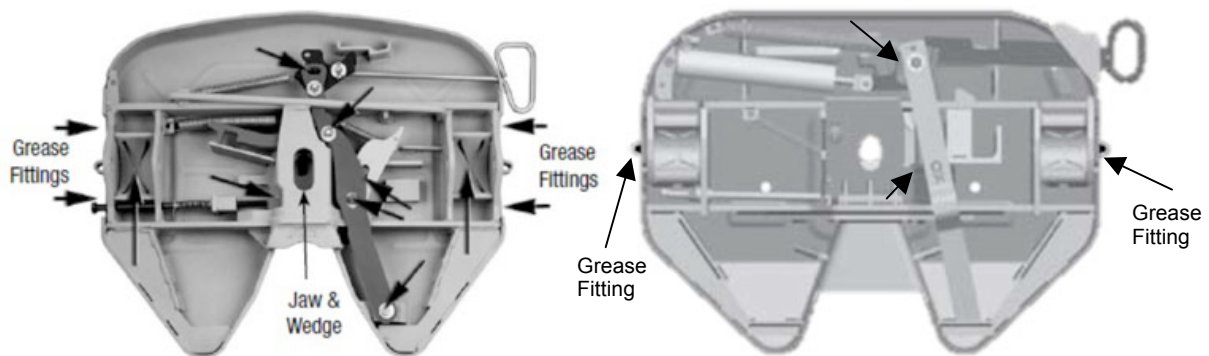

Figure 2: Image of the locking mechanism of Fontaine fifth wheels
Refer to Figure 2 for the placement of the grease fittings. Continue to apply grease until it begins to come out the back of the bearing pocket. Tilt the top plate to the rear (rear of the fifth wheel down). Apply slight upward pressure on the front of the fifth wheel and repeat the procedure. Rock the top plate back and forth several times to distribute the grease across the bearing surface. It is important to remember to grease all of the moving parts and pivot points of the fifth wheel in order to ensure that the primary and secondary locking mechanisms are working properly.
2. Use a suitable grease/oil, lubricate the jaw and wedge by prying them slightly apart with a flat tipped screwdriver. Apply liberal amounts of grease/oil on and in between the jaw and wedge (see Figure 1). Lightly grease all the other moving parts of the fifth wheel that are shown with arrows in Figure 2.